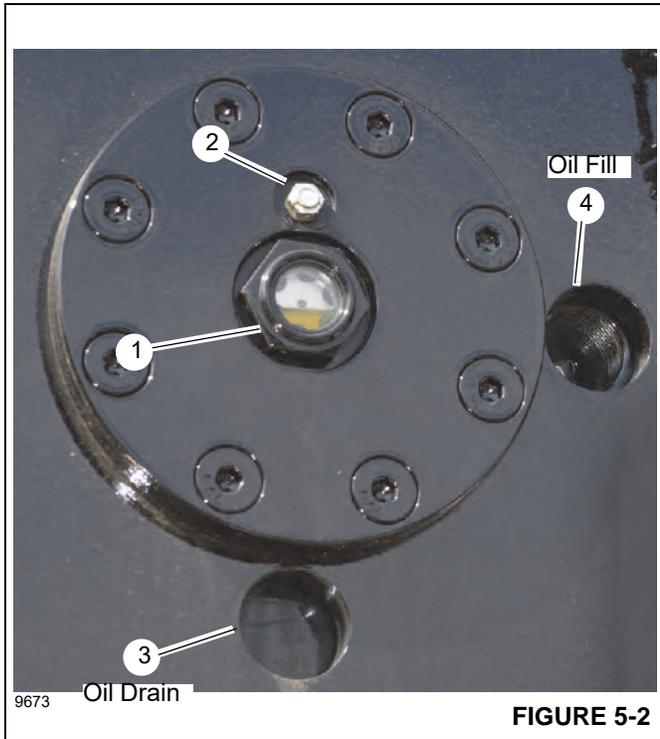
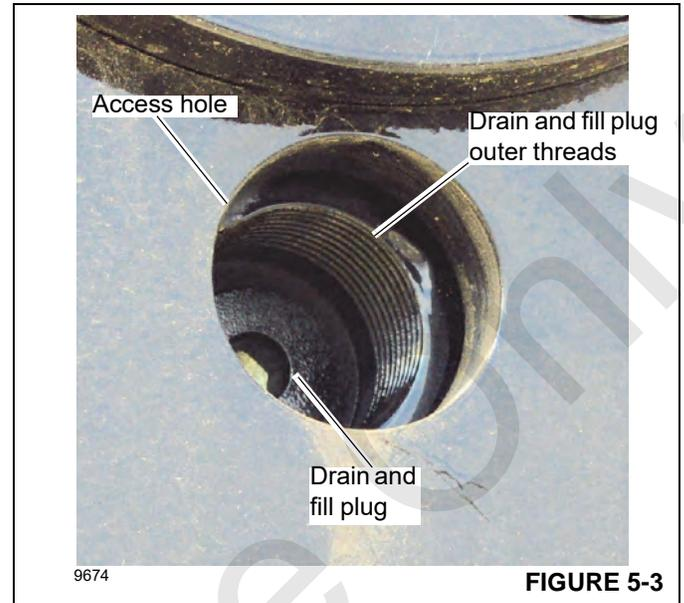

FIGURE 5-2
FIGURE 5-3
Check the oil level in the sight glass (1, Figure 5-2) on the hoist. The oil should be approximately half-way up in the sight glass. The hoist gearbox and brake holds a maximum of 5.44 liters (11.5 pints) of oil.
The hoist oil drain and fill plug is located on the drum. The plug can be accessed through one of two access holes. The bottom (6 o'clock position) access hole (3, Figure 5-2) is used when draining the oil. The access hole on the side (3 o'clock position) is the used when filling the hoist with oil (4).
1. Remove the vent plug (2, Figure 5-2). Clean with solvent as needed. Set aside for later use.
2. Rotate the hoist drum so the drain and fill plug (Figure 5-3) is aligned with the oil drain access hole at the 6 o'clock position (3, Figure 5-2).
3. Install a short 1 inch (25 mm) pipe in the inner threads around the drain and fill plug (Figure 5-3).
8. Coat the vent plug (2, Figure 5-2) threads with oil and install the vent plug.
1. Rotate the hoist drum so the plug aligns with the oil fill access hole at the 3 o'clock position (4, Figure 5-2).
2. Using a 5/16 inch (8 mm) Allen wrench, remove the drain and fill plug (Figure 5-3).
4. Visually inspect the oil level through the sight glass (1, Figure 5-2). When done filling, the oil level should be approximately half-way up in the sight glass.
5. Using a 5/16 inch (8 mm) Allen wrench, install and tighten the drain and fill plug (4, Figure 5-3). Torque the drain and fill plug to 67.8 Nm (50 ft-lb).